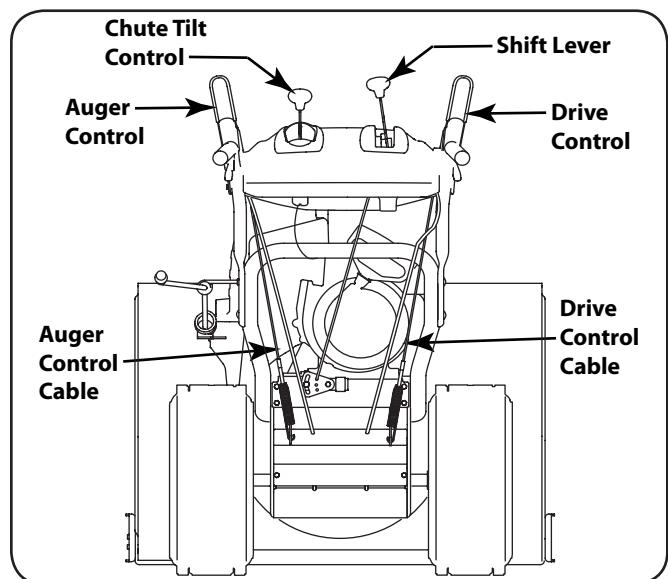

Figure 3-10
When the auger control is released and in the disengaged "up" position, the cable should have very little slack. It should NOT be tight. Refer to Figure 3-10.
1. With the engine turned off, move the shift lever into sixth (6) position. Refer to Figure 3-10.
1. From beneath the handle, pull downward on the appropriate cable and unhook the spring found on the end of the cable from its respective actuator bracket. Refer to Figures 3-10 and 3-11.